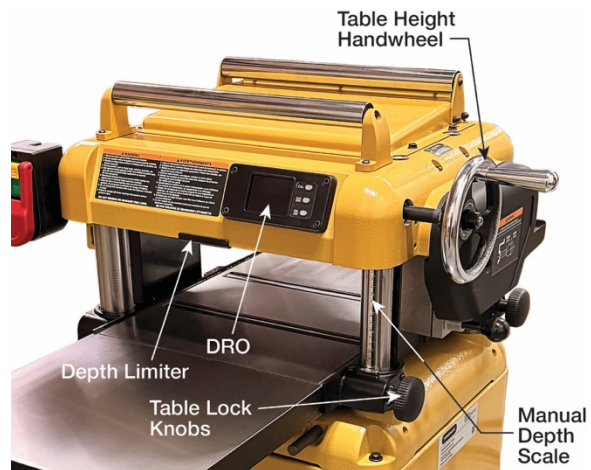

Figure 10-2
1. Set the planing thickness using the table height handwheel. The planing thickness is indicated by the manual depth scale or the DRO. See Figure 10-2.